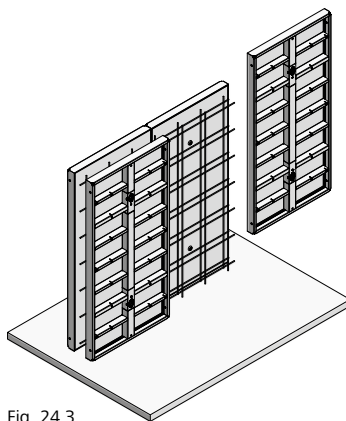

Fig. 24.3
2. Place final-formwork panel (Fig. 24.3).